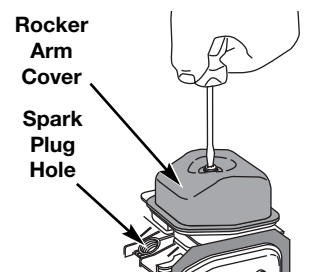

Fig. 38
7. Clean dirt from around the rocker arm cover. Remove the screw holding the rocker arm cover with a large flat blade screwdriver or Torx T-25 bit (Fig. 38). Remove the rocker arm cover and gasket.
- The piston is at the top of its travel while looking in the spark plug hole (Fig. 38)